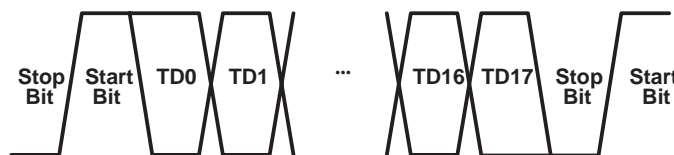

Figure 3. Serial Output Data Stream with Start and Stop Bit
All true serial interfaces require a method of encoding to insure minimum transition density so that the receiving PLL has a minimal number of transitions in which to stay locked onto the data stream. The signal coding also provides a mechanism for the receiver to identify the byte boundary for correct deserialization. The TLK2521 wraps a start bit (1) and a stop bit (0) around the 18-bit data payload as shown in Figure 3. This is transparent to the user as the TLK2521 internally adds the framing bits to the data such that the user reads and writes actual 18-bit data.
The parallel-to-serial shift register takes in the 20-bit wide data word multiplexed from the framing logic and converts it to a serial stream. The shift register is clocked on both the rising and falling edge of the internally generated bit clock, which is 10 times the GTX_CLK input frequency. The LSB (TD0) is transmitted first as shown in Figure 3.